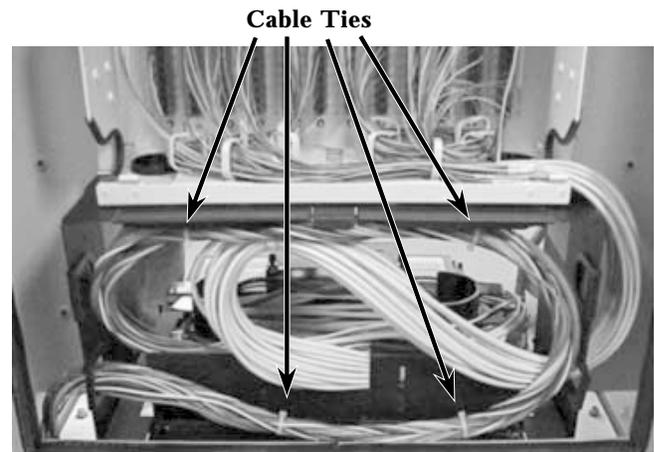

Figure 9
- Step 3** Secure cable to the back side of the splice shelf using cable ties as shown in Figure 9 to provide appropriate clearance for fiber routing.